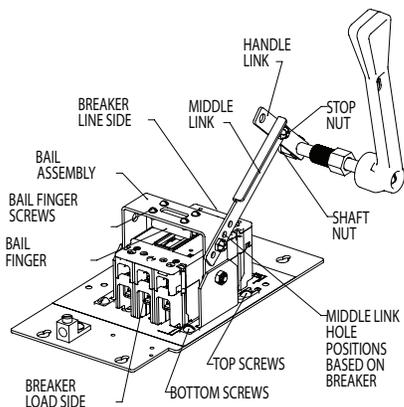

Figure 5 – Circuit Breaker Install
- If circuit breaker is going into a new empty breaker only enclosure (non-populated), it is possible to install the breaker without removing the bail assembly. Remove two (2) bail finger screws to remove top bail finger. With bail finger removed, and breaker handle in OFF position, the breaker can be slid from the top of the enclosure down. Skip to Step 4 below, and then reinstall top bail finger, making sure two (2) bail fingers are on either side of breaker toggle. Follow Step 9, and if alignment of mechanism is required, follow steps below.
- To remove bail assembly, unfasten stop nut (from shoulder screw) that joins the handle link and middle link together. Slide the middle link arm off the shoulder screw. (Do not remove shaft nut that secures the handle link to the threaded handle shaft). (See Figure 5).
- Loosen but do not remove the top two (2) 1/4-20 round head screws, which secure the bail brackets to the mounting plate.
- Unthread the bottom two (2) 1/4-20 round head screws from the mounting plate. The bottom two (2) screws are captive to the bail brackets and should not be removed. Move the bail assembly until the bracket slots are clear of the top two (2) screws. Set aside the bail assembly.
- After circuit breaker is installed, verify label on the middle link for hole alignment based on the breaker manufacturer. See Appendix Table A1 for link hole position per configuration and adjust if required. Re-attach the middle link to handle link with shoulder screw and stop nut removed in Step 1 per Figure 5.